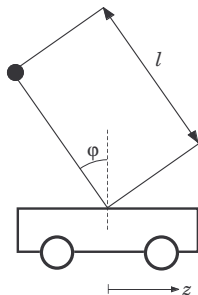

Figure 7.2 Inverted pendulum in exercise 7.4.
7.4 When walking, the body is kept in upright position by some regulatory system. This balancing of the body can be simplified to the problem of controlling an inverted pendulum positioned on a cart, by moving the cart. In Fig. 7.2, a schematic of this inverted pendulum is given.